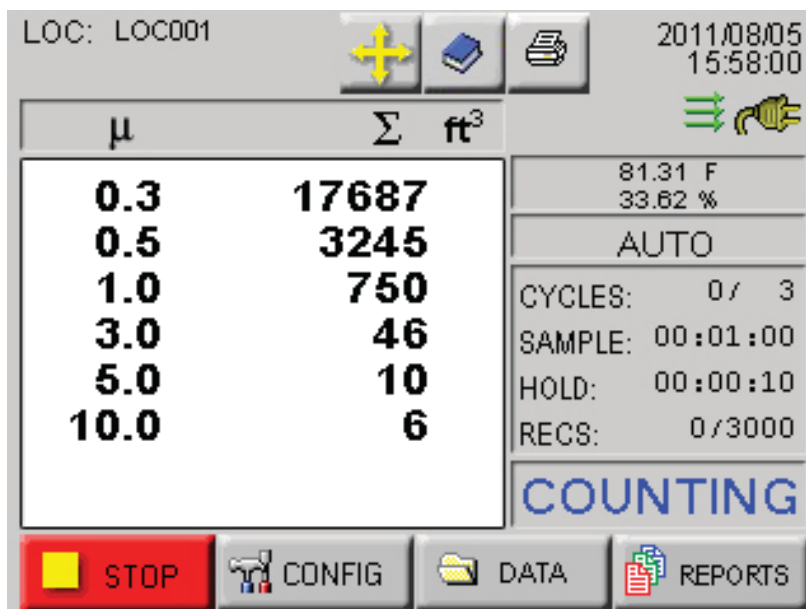

Figure 6-5 Counting Mode
- **START/STOP:** Press START button on the screen to start counting. When running, the instrument will display “COUNTING” in the lower right corner of the screen as shown in Figure 6-5. Press the STOP button to stop counting; the word “STOPPED” will display.